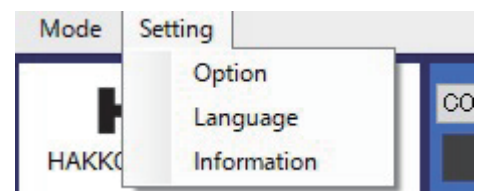
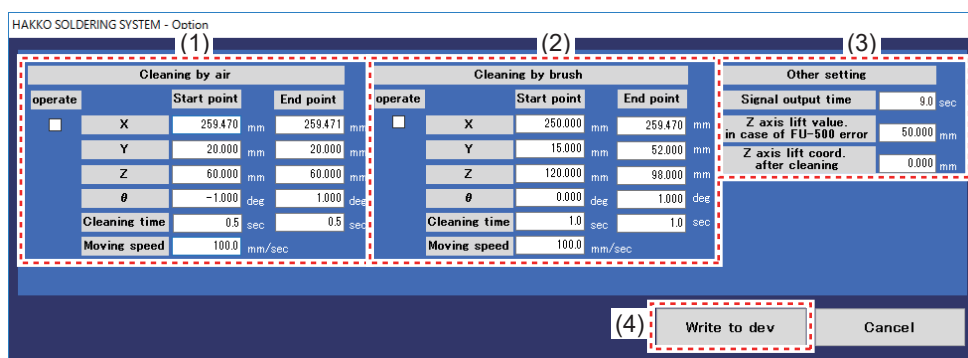

Fig. 4-16
Fig. 4-18
When Option is clicked in Fig. 4-16, the Option screen shown in Fig. 4-18 will be shown.
- (1) Cleaning by air
- (2) Cleaning by brush
- This is the setting for coordinates of start point/end point (X/Y axis: 0 to 400 mm/ Z axis: 0 to 150 mm/θ axis: -200 to 200 degrees), cleaner time (cleaning time: 0 to 99.9 sec), and movement speed (moving speed: 1 to 800 mm/sec) when cleaning. (See Fig. 4-18.)